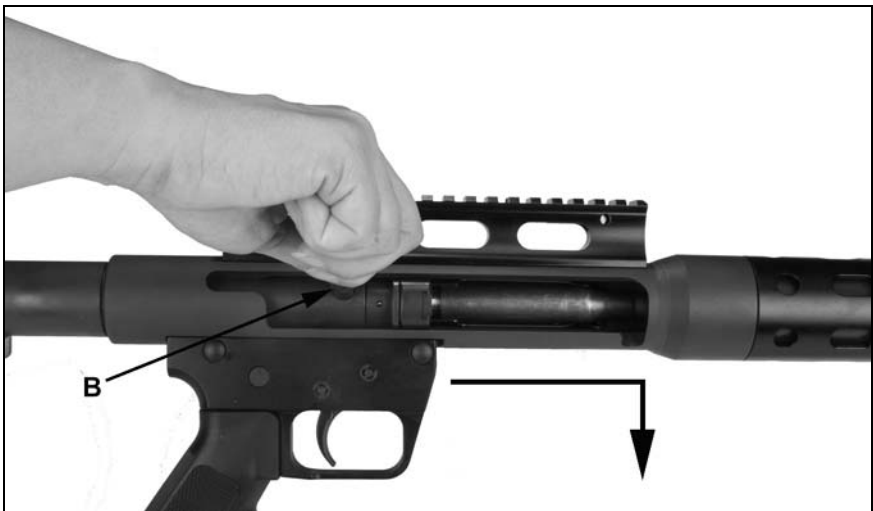

Figure 15
6. To load a round into the chamber, push the bolt handle (B) fully forward and down. A round from the magazine is now loaded into the chamber. See figures 15 and 16.
For single shot rifles, load a round into the chamber and push the bolt handle (B) fully forward and down. See figures 15 and 16.